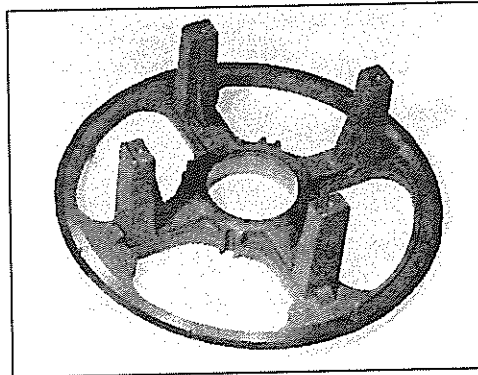

Figure 6-48
4. Inspect the end bracket for stripped threads, cracks, and burred or rough mating surfaces. Inspect the bearing bore for burrs or wear. If the bracket shows excessive bearing bore wear, it should be repaired or replaced (figure 6-48).